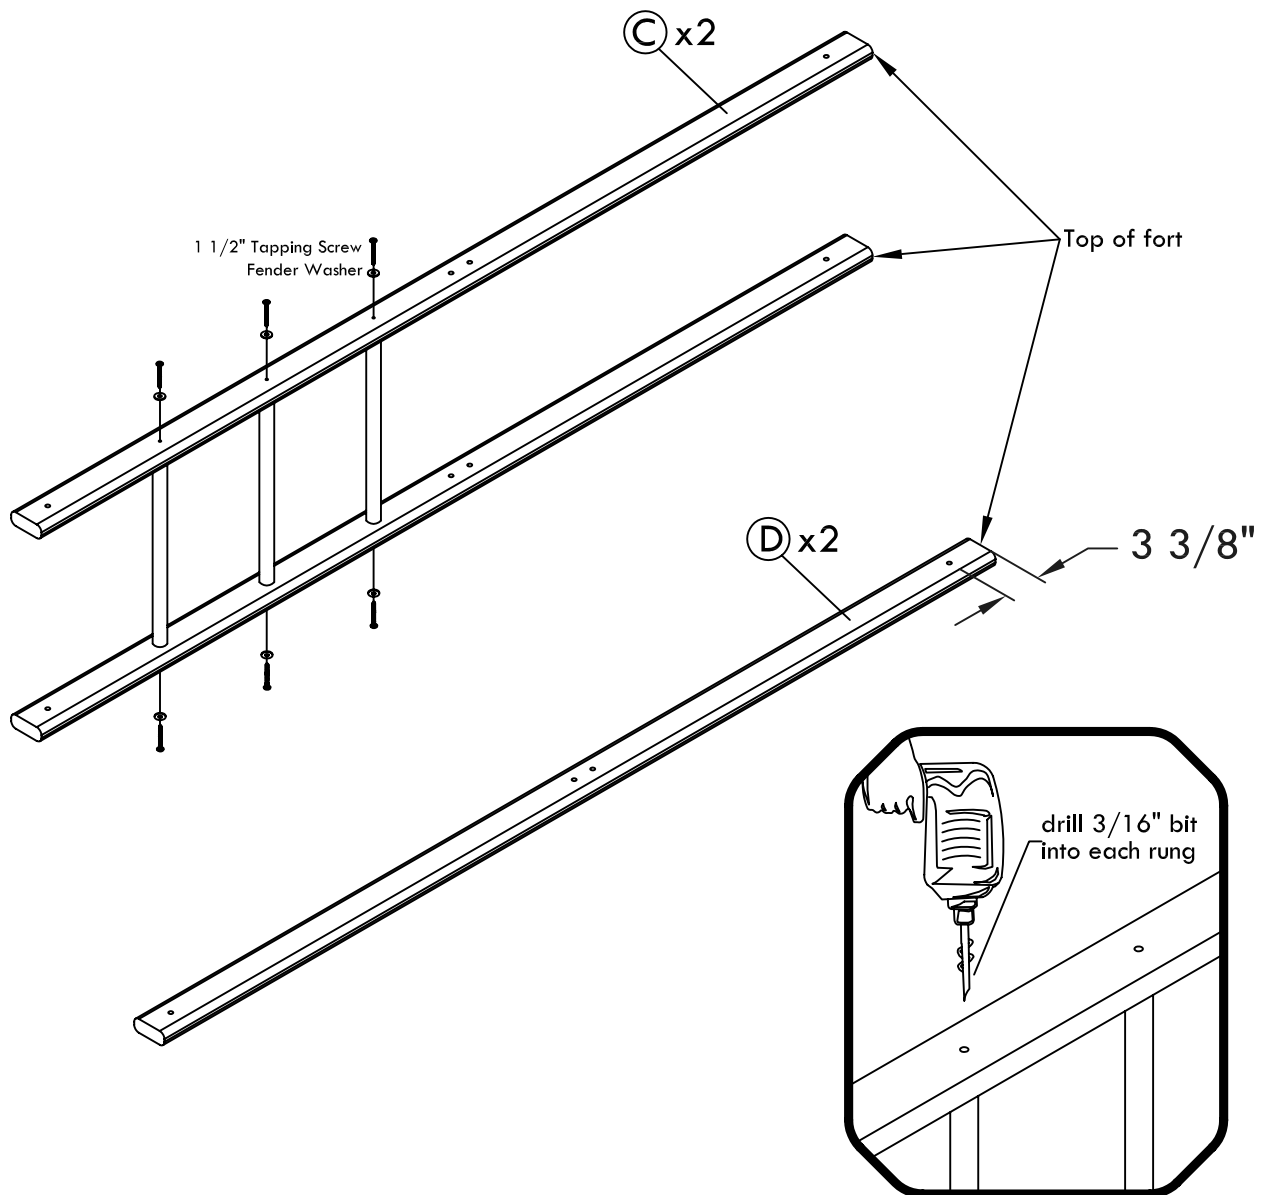

Fig. 1
- (2) Fort Uprights 'D'
Step 1: Using a drill with a 3/16" bit, pre-drill a hole approximately 1 1/2" deep into each wooden rung on both ladder assemblies. (See Fig 1) This will aid Step 2.